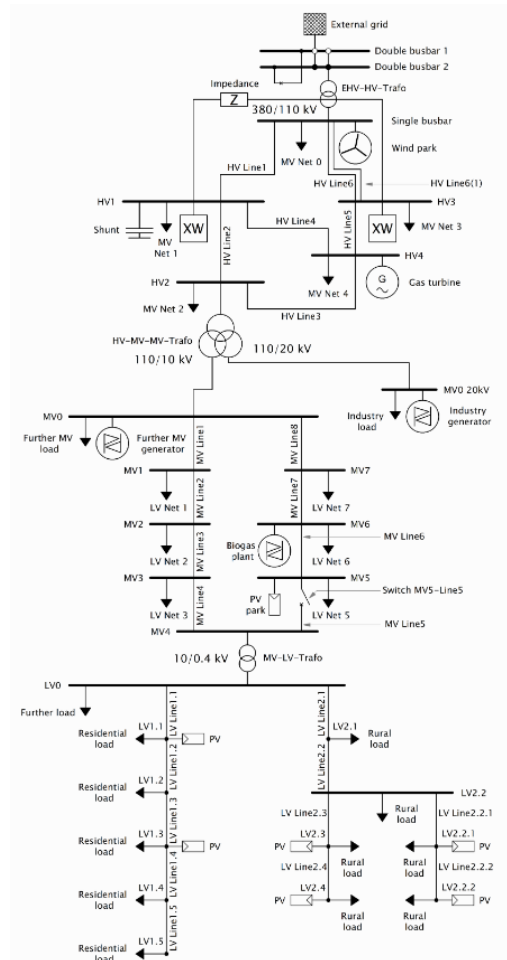

Figure 9 Multi-Voltage Level Example Network
- Multi-Voltage Level Example Network (Figure 9)